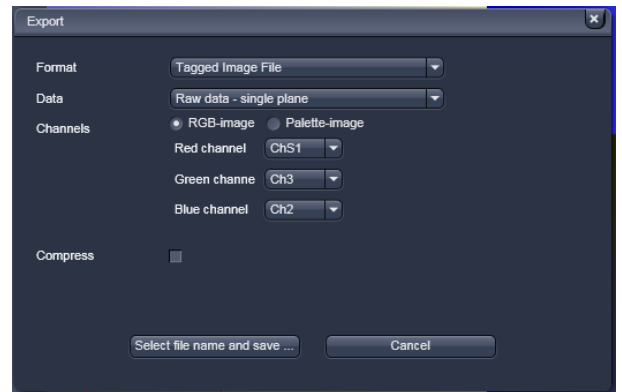

Fig. 646 Export window
- This opens the **Export** window (Fig. 646).